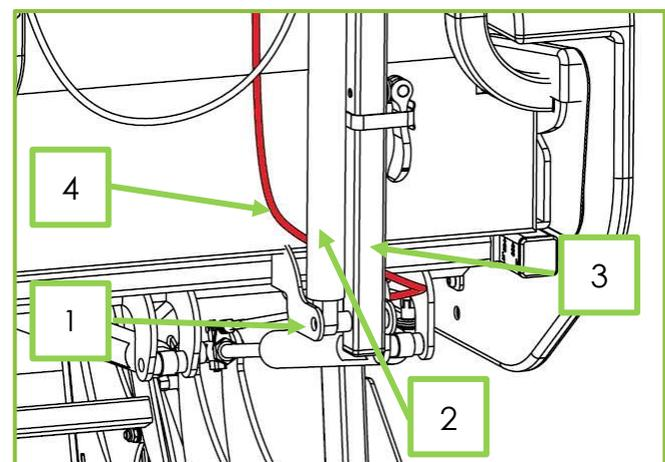

Figure 3
5. Rotate the backrest upward and hold in place. Align the mounting hole at the bottom of the gas strut (Fig 3, Item 2) and the mounting hole at the bottom of the backrest lockout slide (Fig 3, Item 3)
with the clevis at the back of the main frame (Fig 3, Item 1). Ensure the Tilt-in Space operating cable (Fig 3, Item 4) is routed between the backrest and the backrest actuator assembly.